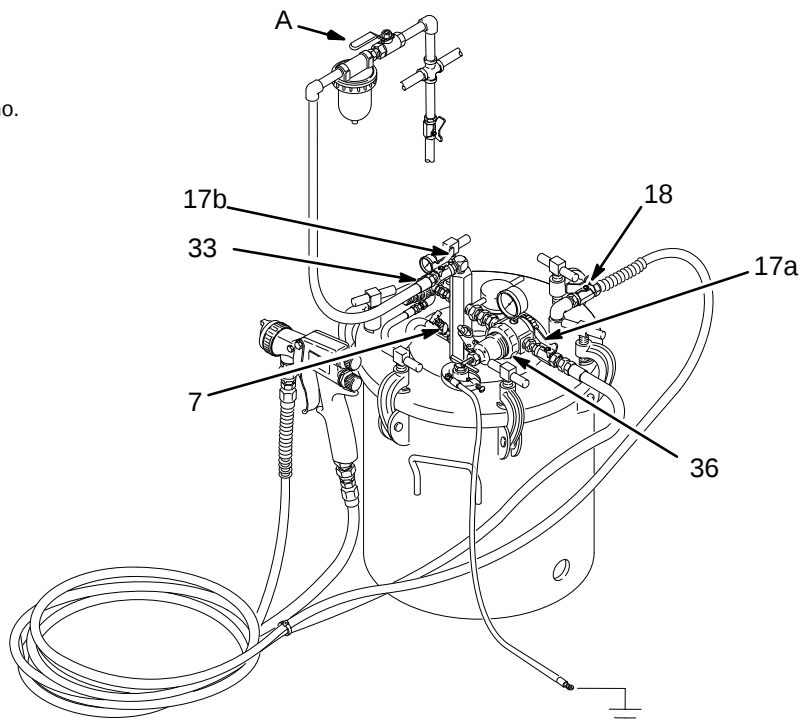

Fig. 5
1. Close the gun air shutoff valve (17b). See Fig. 5.
2. Open the air relief valve (7) by turning it counter-clockwise. (Leave it open until you reinstall the pressure pot cover or fill port.)